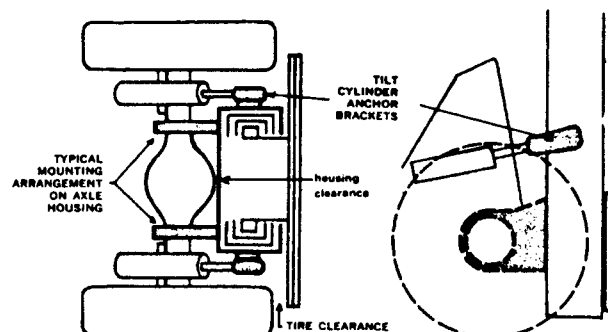

FIG. 4
9. Operate mast in all positions, fully tilting to check for mounting interference and proper operation. (See Fig. 4)